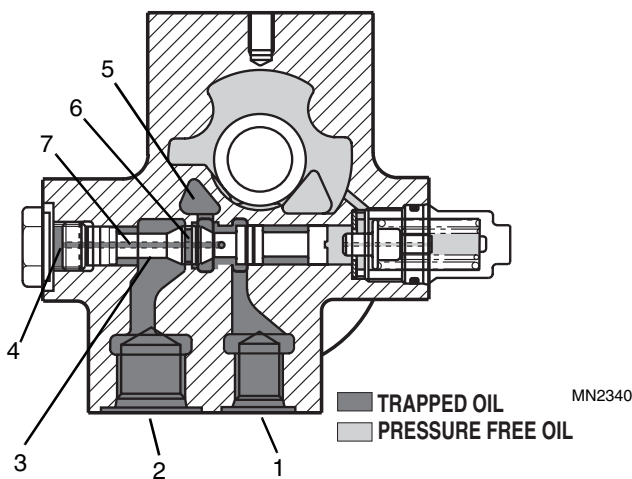

Figure 5-5 Pressure Priority Valve - Spool at Rest
With the engine STOPPED, oil in the charge (Fig. 5-5, 1) and implement port (2) is trapped, and the priority valve control spool (3) is at rest on the non-spring end (4) of the
The charge circuit is ported to the non-spring end (Fig. 5-5, 4) of the valve housing by a small passage (7) in the control spool.